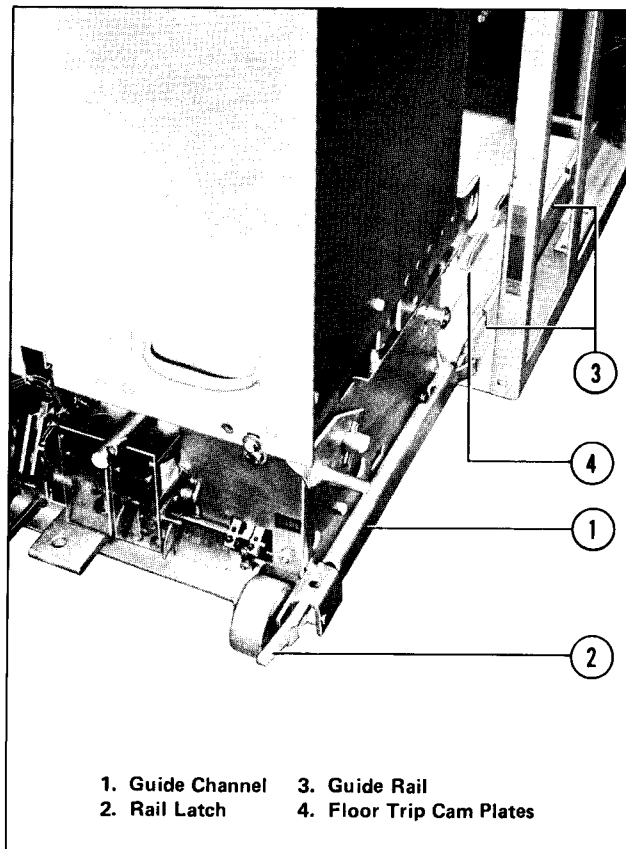
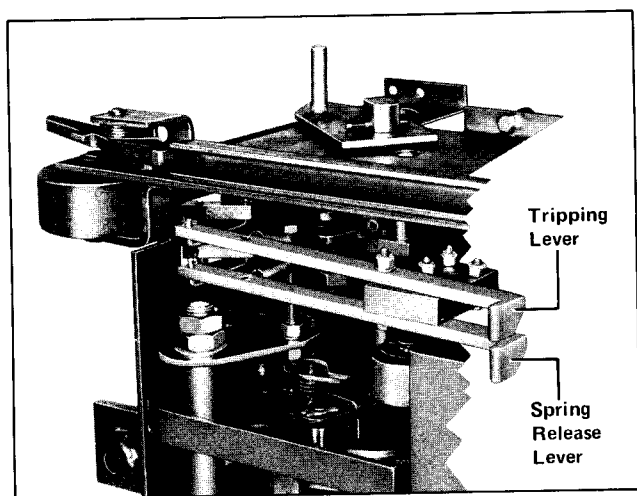

Fig. 22 Breaker Guide and Rail Latch (393301)
Fig. 28 *Floor Tripping and Closing Spring Release Levers (Floor Trippers) (393900)*
The guide channel is an inverted U-shaped channel welded along the bottom edge of the right hand chassis side sheet. The guide channel cooperates with the guide rail welded to the floor of the metal-clad cell. The two pieces acting together position the breaker laterally in the cell. Fig. 22.
4. **Floor Tripping and Closing Spring Release Interlocks** — The floor tripping and closing spring release interlocks operate to trip the breaker and discharge the closing spring when the breaker is inserted into the cell to the test position or removed from the cell. Cam plates on the cell floor Fig. 22 lift trip levers on the underside of the breaker, Fig. 28, to trip the breaker and/or discharge the closing spring.